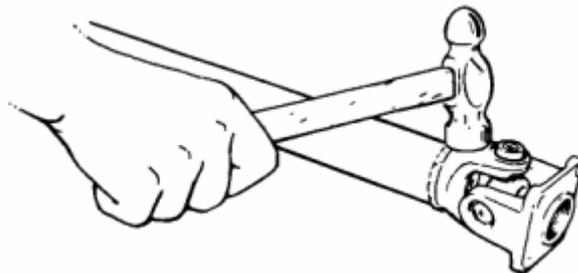

FIG.12-8
(3) Tapping yoke with a hammer, completely remove bearing race. (FIG.12-8)